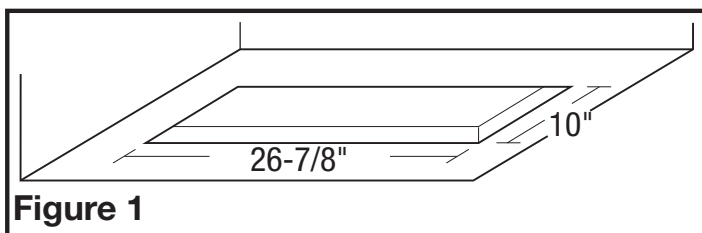

Figure 1
1. Most building codes require noncombustible material above the cooking surface. If you have wood or some other combustible material on the bottom of your cabinets it is recommended that you use the optional hood liner (See **Section 3**) If you have noncombustible material cut a 26-7/8" x 10" hole into the cabinet or canopy the power unit will be mounted into (**Figure 1**).